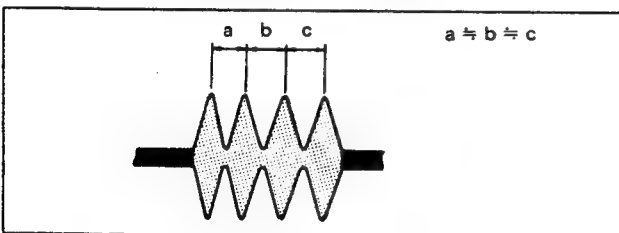

Fig. 2-43.
- 1) Run the tracking alignment tape ; set in REV mode. Make sure that the waveforms have equidistant peaks (See Fig. 2-43). If not, perform according to para 2-7-4, Tracking Fine Adjustment, and 2-7-5, No.4 Guide Adjustment.
- 2) Set in CUE mode. Make sure that the waveforms have equidistant peaks (See Fig. 2-43). If not, perform according to para 2-7-4, Tracking Fine Adjustment.